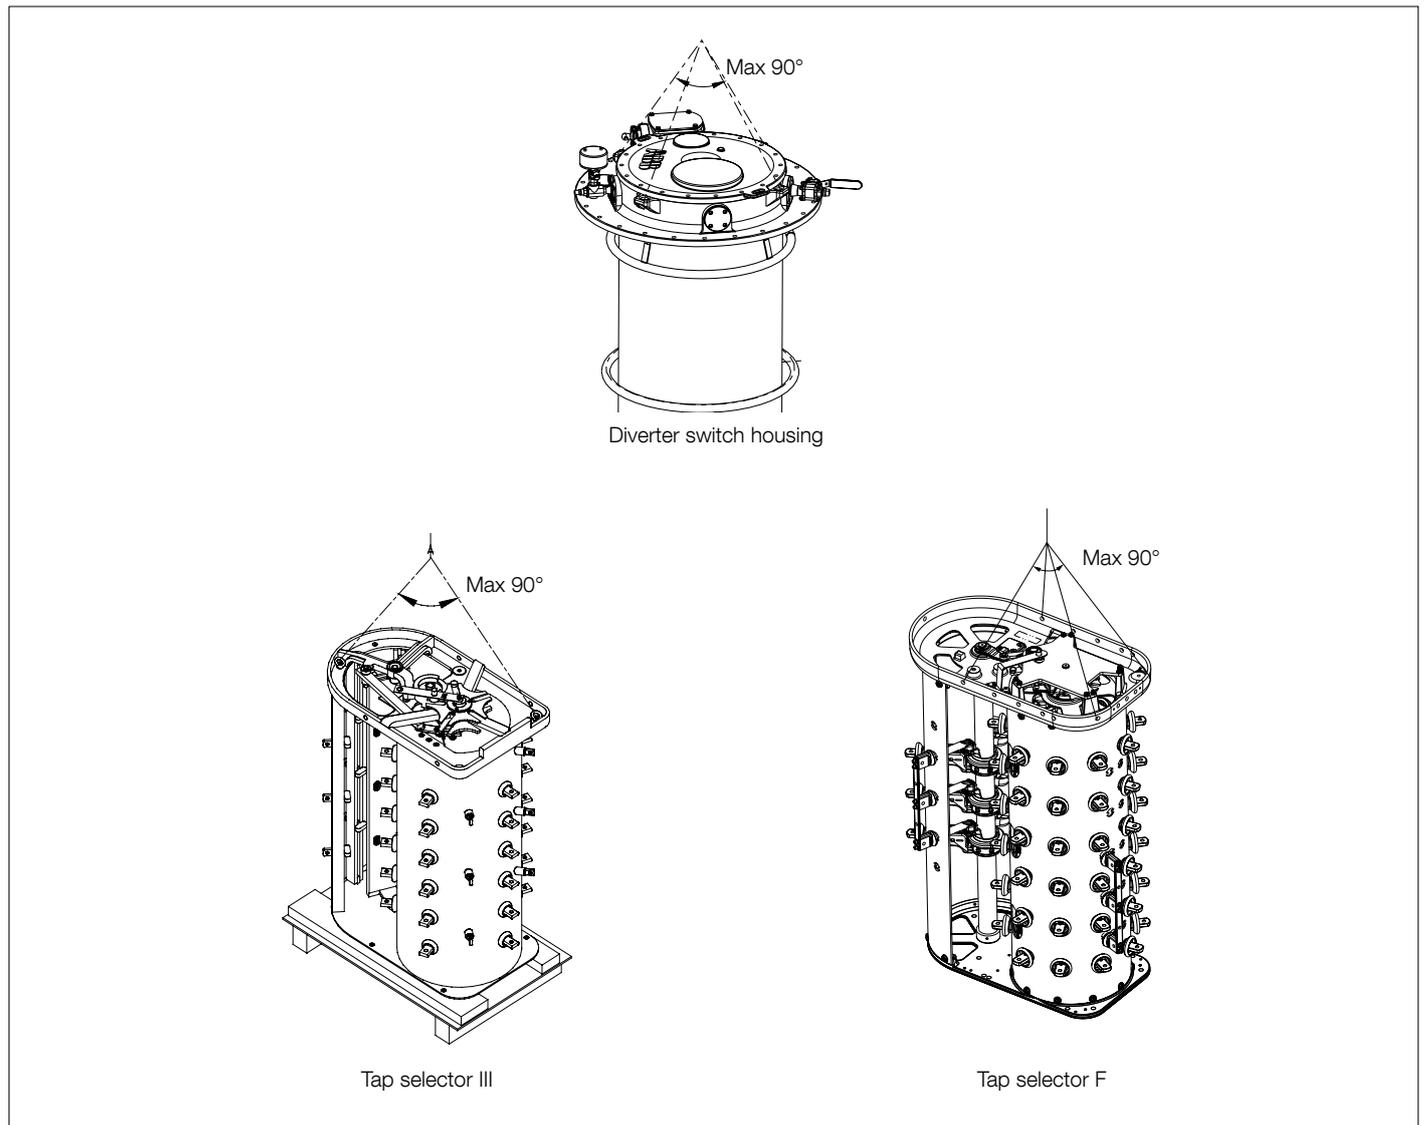
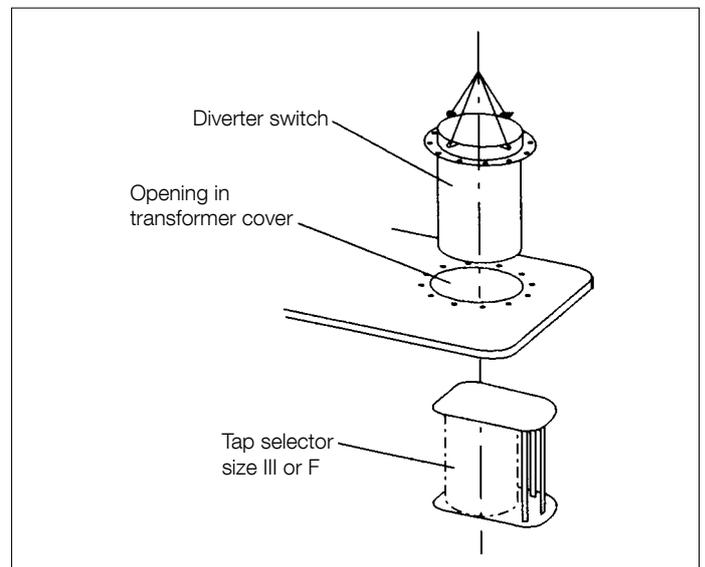
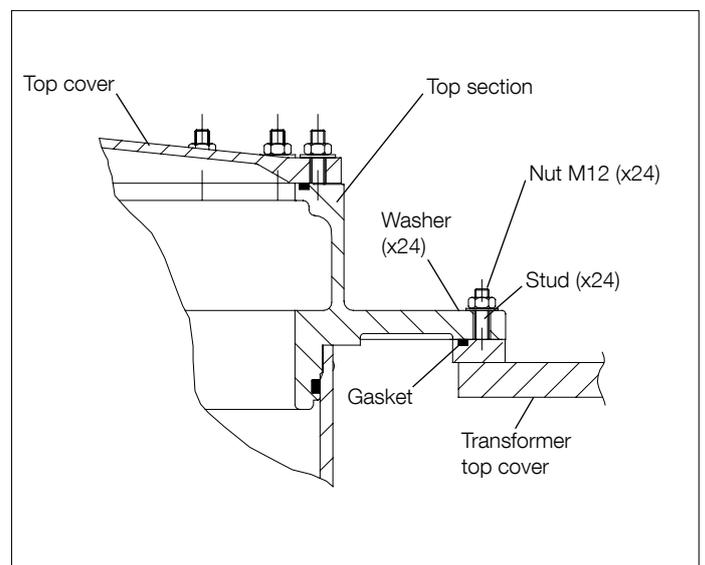
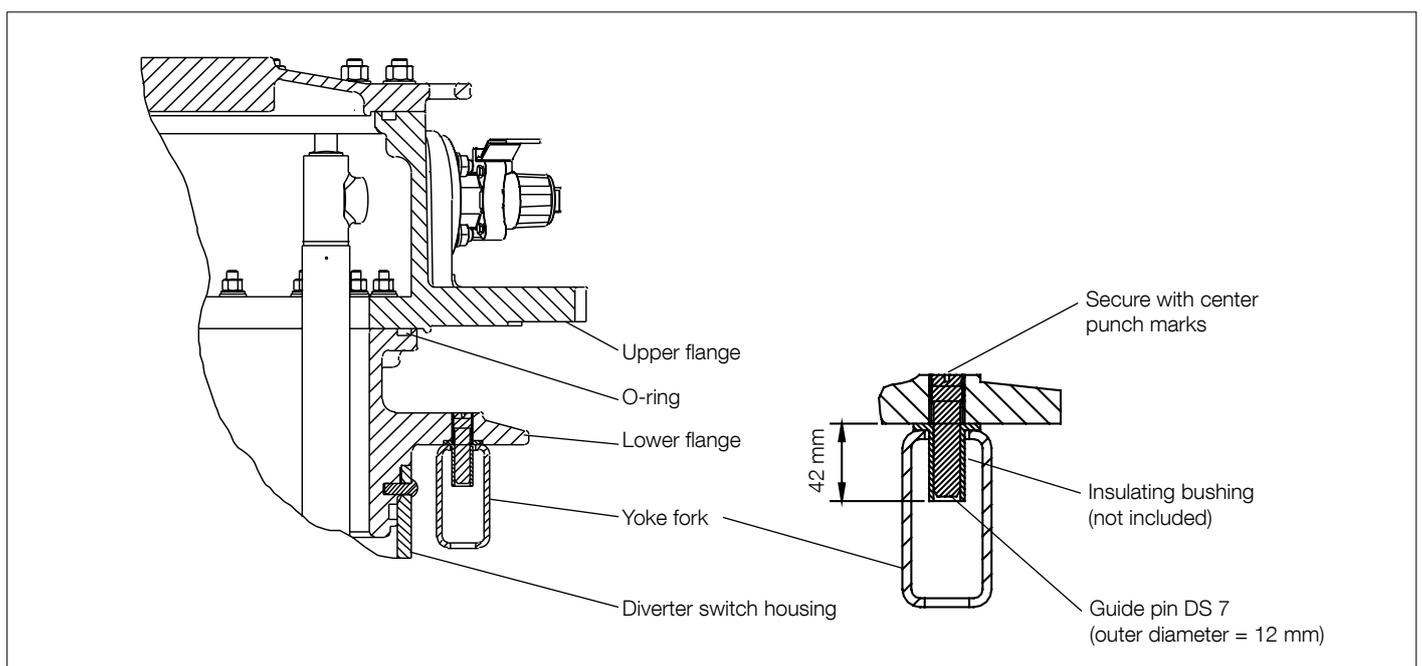

Fig. 4. How to lift the diverter switch housing and the tap selector.
Fig. 5.
Fig. 6.
Fig. 11.
Lift the tap-changer parts by their lifting eyes according to Fig. 4.
The diverter switch housing and the tap selector are designed to be lifted by the lifting eyes; see Fig. 4.
2. Fit the gasket into the tap-changer flange on the transformer cover; see Fig. 6. (This gasket is not included in the delivery.)
3. Lift the diverter switch housing by the lifting eyes as shown in Fig. 4 and lower it carefully through the opening in the transformer top cover; see Fig. 5. Correctly position the diverter switch housing correctly for mounting the outer shaft system (see transformer drawing). The studs on the flange on the transformer cover shall fit into the holes in the flange of the diverter switch housing. Fit twenty-four washers and M12 nuts (not included in the delivery); see Fig. 6. Tighten the nuts.
4. Position the tap selector for joining to the diverter switch housing. Lift by the lifting eyes as shown in Fig. 4.
The top section of the diverter switch housing is designed to be divided into an upper and a lower flange (see Figs. 11 and 13) to fit the yoke-mounting.
2. Lift the tap-changer onto the yoke fork (use the lifting eyes at the top of the tap-changer; see Fig. 4). Place the tap-changer in position for mounting the outer shaft system (see transformer drawings). Insert and tighten the supplied guide pins DS 7 and insulating bushings (not included in delivery) in the lower flange; see Fig. 11. The guide pins must be secured by center punch marks in the pins.
Lift the tap-changer onto the yoke fork. Place the tap-changer in position for mounting the outer shaft system (see transformer drawing). Insert the supplied guide bolts DS 7 and insulating bushings (not included in delivery) in the lower flange; see Fig. 11. The guide bolts must fit into the holes in the yoke fork and be secured by punch marks in the pins. When the tap-changer is in place, remove the lifting device.
3. Place the O-ring in its groove in the lower flange; see Fig. 11.